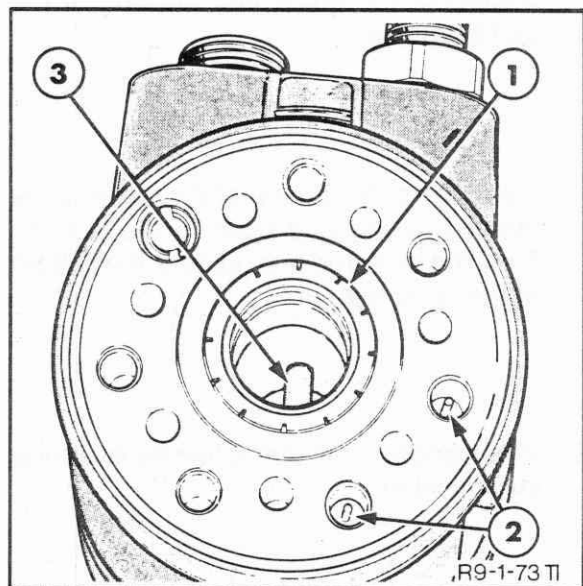

Figure 7-41
14. Align the spool and sleeve assembly in the housing so that the pin is positioned parallel with the port face, as shown in Figure 7-41.